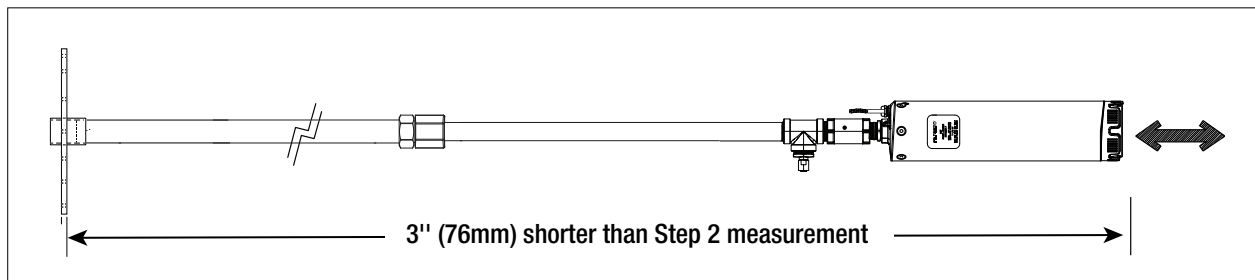

Figure 8. Adjusting Pump Length
- Referencing Figure 8, pull the PMA end until the distance between the bottom of the bulk head and the bottom of the PMA is 3 inches (76 mm) shorter than the distance measured in Step 2.